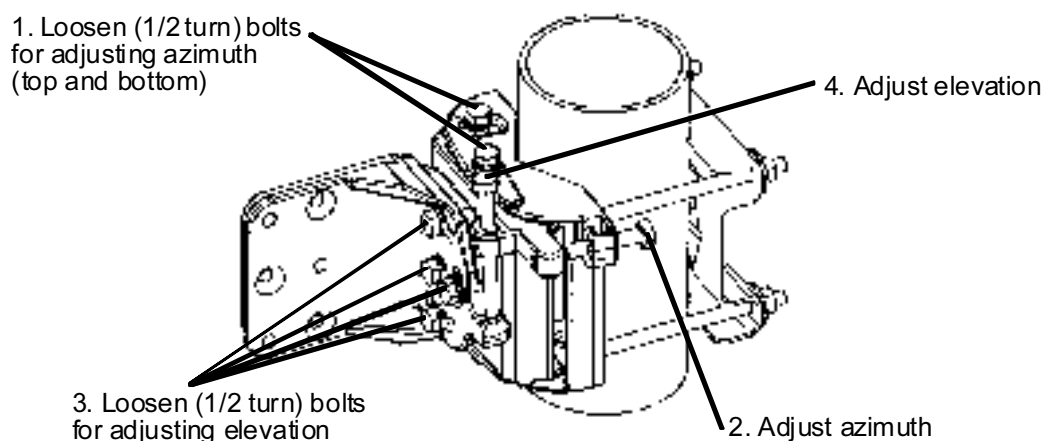

Figure 11-3 Location of Adjusting Nuts and Bolts (ANDREW VHLP Type Bracket)
- A-1 Loosen bolts (1 in Figure 11-3),
- A-2 Adjust the azimuth angle by adjusting bolt (2 in Figure 11-3),
- A-4 Loosen bolts (3 in Figure 11-3),
- A-5 Adjust the elevation angle by adjusting bolt (4 in Figure 11-3),